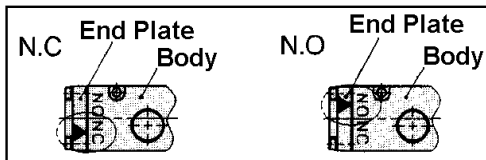

Figure 11
- When changing the actuation from normally closed to normally open type, remove the end plate from the body and reset the ▼ mark on the end plate to correspond with the 'NO' mark on the body as shown in Figure 11.